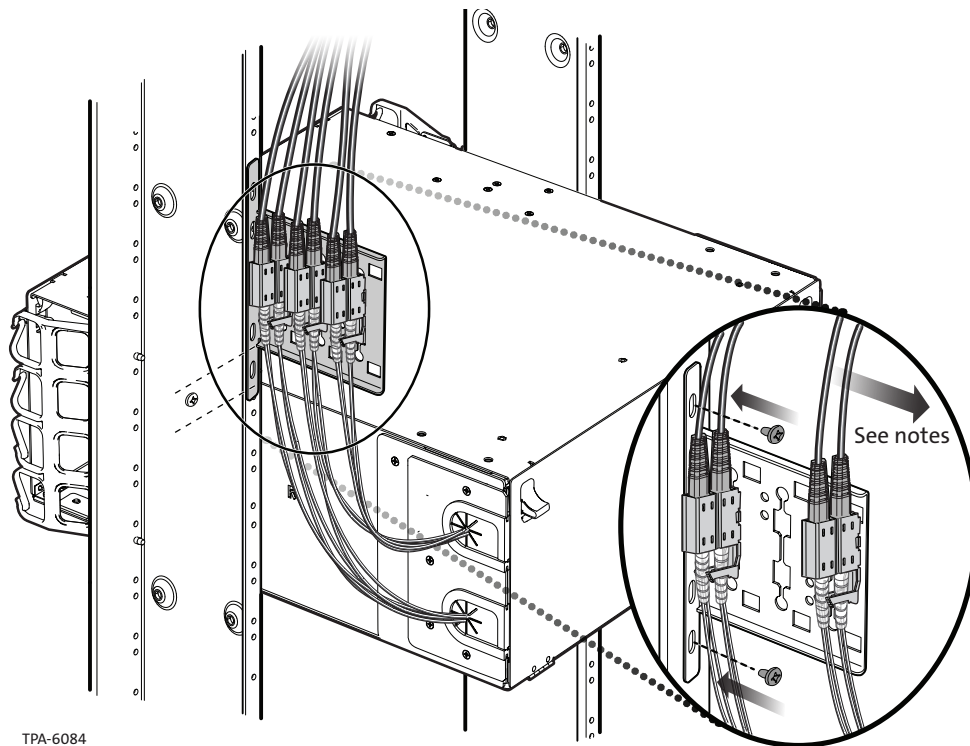

Figure 16
Step 1: Mount the frame-mounted external strain-relief bracket (CTX-KIT-S4U-MTP-SR) to the rear of the frame above or below the housing (Figure 16).
Step 1: Mount the external strain-relief bracket (CTX-KIT-S4U-MTP-SR) to the rear of the frame at the same elevation as the enclosed housing as seen in Figure 16.